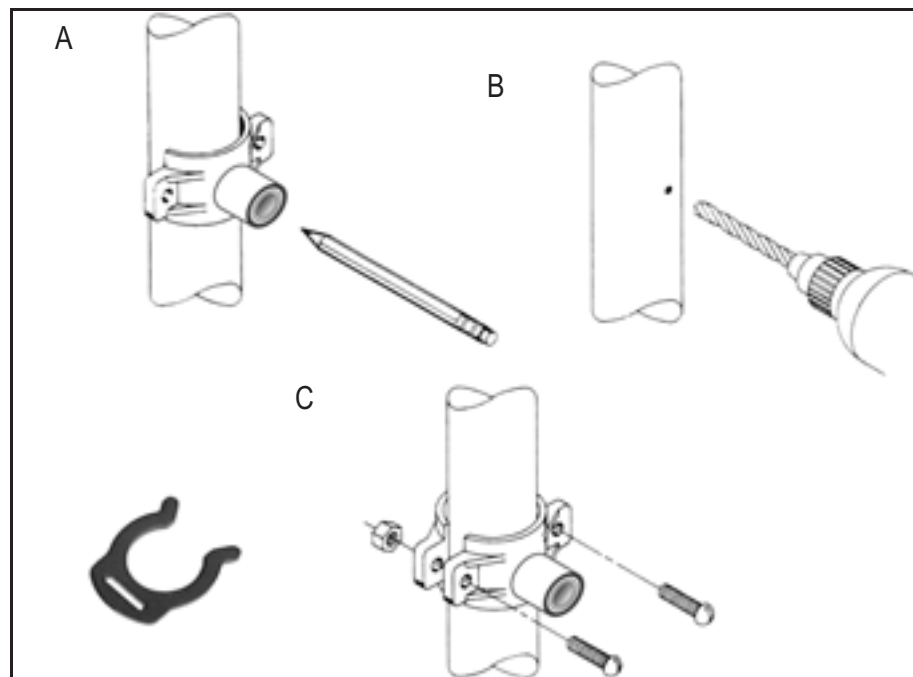

Figure 11: Drain Saddle Assembly
- A. Position the drain saddle in the desired location, mark the spot to be drilled, and remove the saddle. (See Figure 11.)